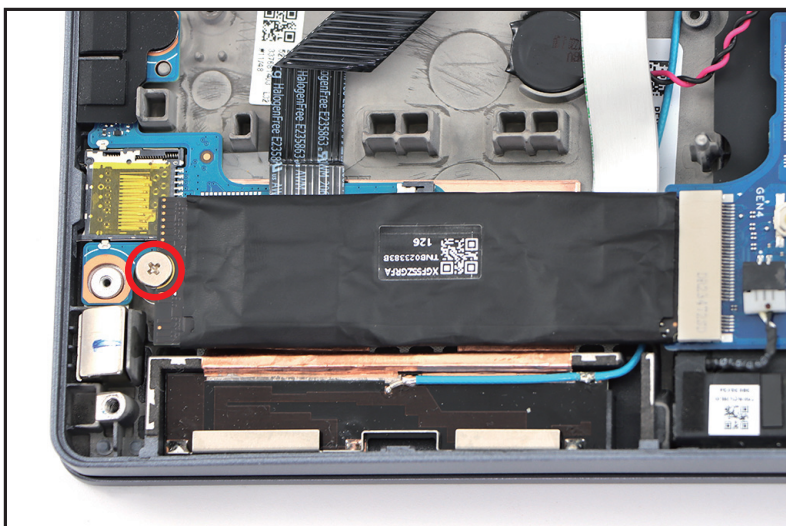

Figure 1-34. SSD Module Removal
1. Remove one (1) screw securing the SSD module (Figure 1-34).